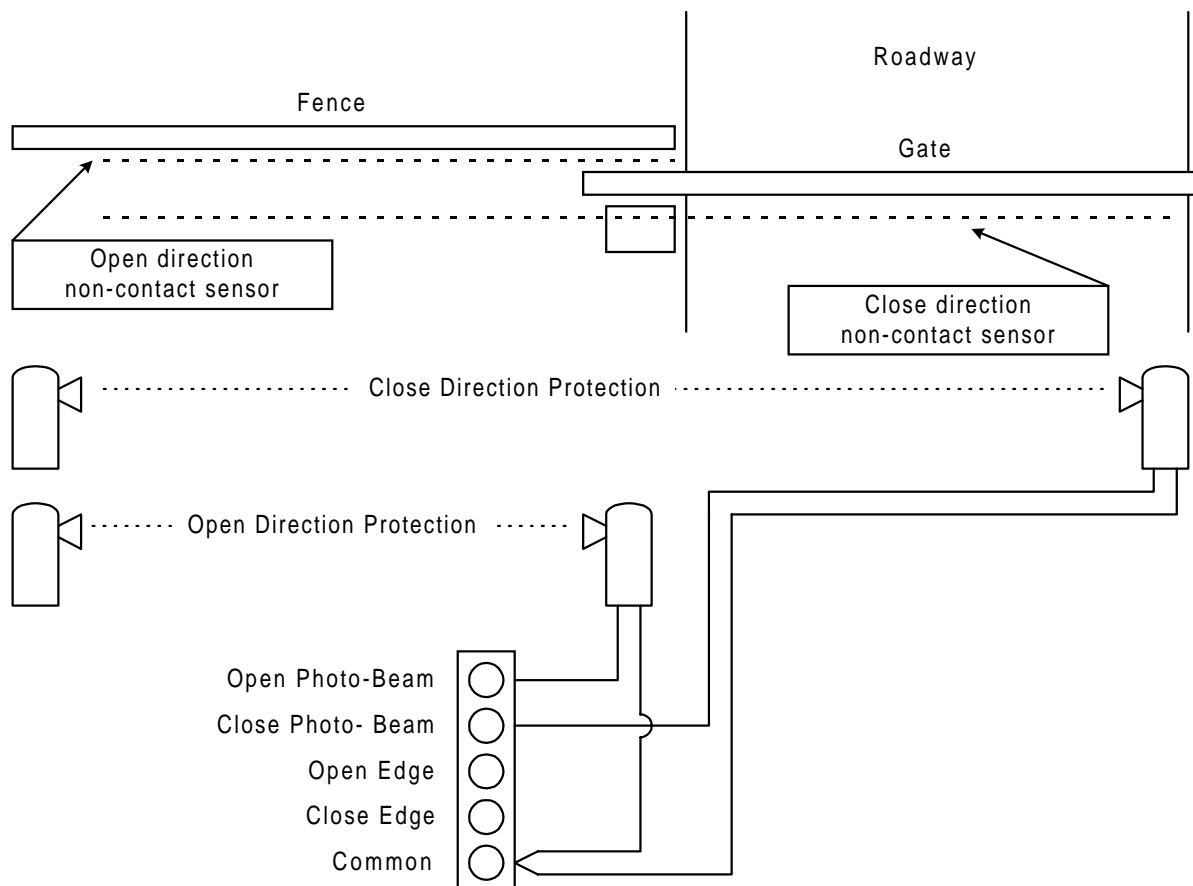

Figure 26
- See figure 26 for suggested placement of sensors. (Diagram is for illustration purposes only. Actual placement of the sensors is dependent on the installation requirements). One or more non-contact sensors shall be located where the risk of entrapment or obstruction exists, such as the perimeter reachable by a moving gate or barrier.